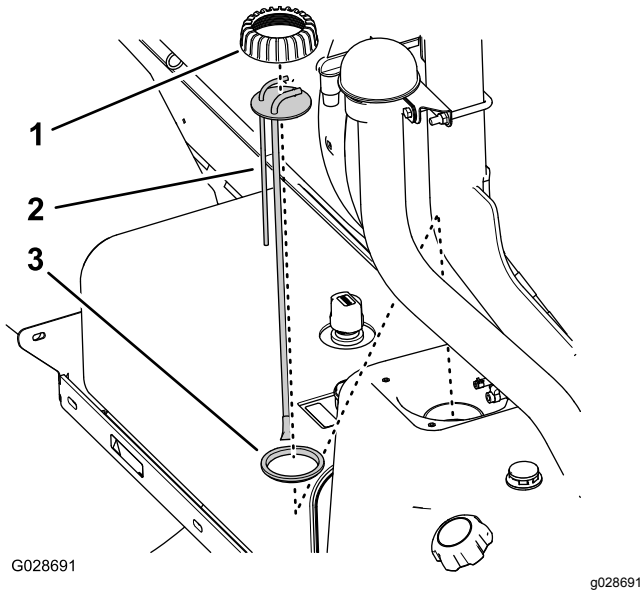

Figure 79
5. Rotate the fuel-standpipe/sender cap counterclockwise, then remove the cap (Figure 79).
6. Lift the fuel-standpipe/sender assembly from the fuel tank (Figure 79).
1. Assemble the standpipe cap over the stand pipe and the standpipe to the seal (Figure 79).
2. Align the cap, standpipe, and seal to the tank, and carefully insert the new stand-pipe assembly into the fuel tank (Figure 79).
3. Thread the cap onto the neck of the fuel tank and tighten the cap hand tight (Figure 79).